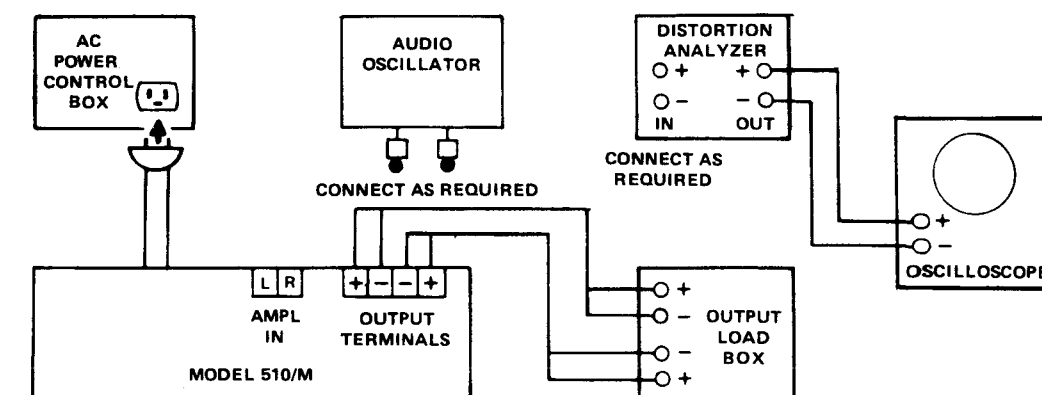

Figure 4. Test Equipment Connection, Block Diagram
Above items to be connected per Figure 4. or as directed in Test or Adjustment Procedures
1. All tests are performed with the unit under test and the test equipment connected as shown in Figure 4. All tests are conducted with 120 VAC line voltage applied to unit. Unless otherwise specified in the procedure, the test equipment controls will be set to the following positions.